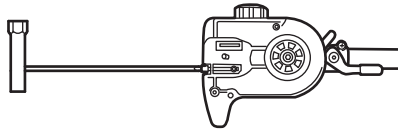

Fig. 35e
6. Ensure that the tension pin (D11) is adjusted to its far right position before assembly the checked or the new chain and guide bar. If not, turn the tension screw (D12) anticlockwise with the slotted screwdriver (E6). (See Fig. 35e)